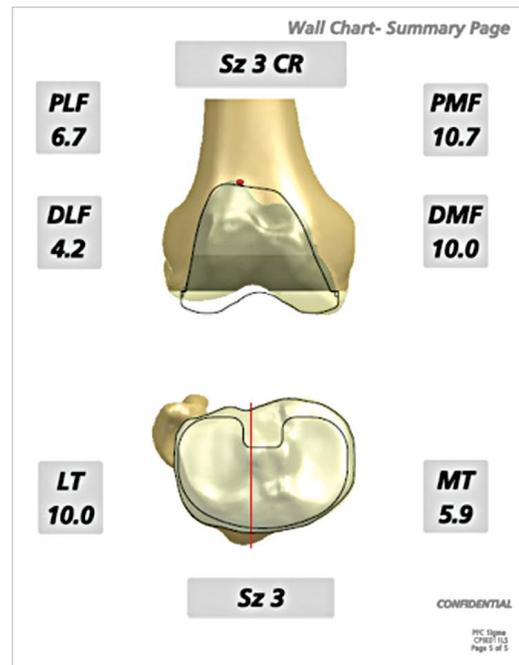

Figure 36
- d. For intra-operative reference, display the wall chart summary page (Figure 36) at an easy to read location in the OR, such as the light box or back wall.
- e. Review the Wall Chart Summary (Figure 36), which contains bone resection information and the Tibial Guide orientation line.